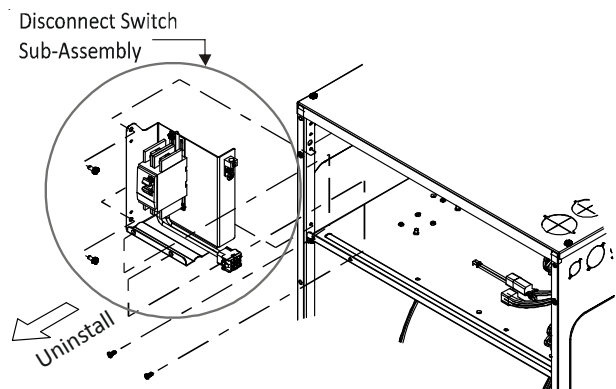

Figure 18
**NOTE: AIR HANDLER WITH DISCONNECT SWITCH -** Attach the supply wires to the disconnect switch terminals as shown in the unit wiring diagram using appropriately sized solderless connectors or other NEC or CEC approved means. A ground lug is also provided on the disconnect switch mount bracket (Figure 18) in the electrical compartment. The ground wire from the power supply must be connected to this ground lug.
**NOTE: AIR HANDLER WITH DISCONNECT SWITCH - Do not use disconnect switch assembly inside the unit while installing Heat kit. Refer Figure 18 to know how to remove disconnect switch assembly from unit.**